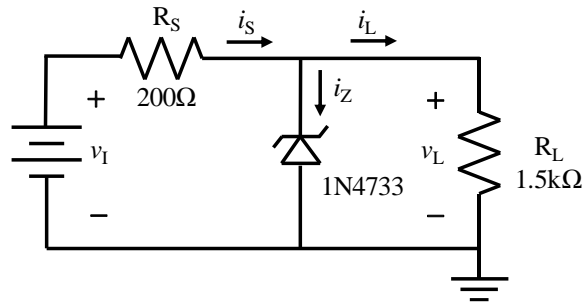

Fig. 4. Zener diode voltage regulator.
A Zener diode is sometimes used as a simple dc voltage reference or voltage regulator using a circuit like the one in Fig. 4. It is an inexpensive alternative to monolithic reference and regulator integrated circuits, but the performance is not as good. The Zener diode's incremental ac resistance makes this type of regulator's output voltage vary with load current and applied input voltage. A good voltage regulator acts like a voltage source so its output resistance must be very low, ideally 0. The Zener diode used here has an incremental resistance of a few ohms, which while low, is still too high to consider it as behaving like a voltage source.
4. Perform the following calculations for the Zener-diode voltage regulator in Fig. 4. Use the CVD model for the diode in reverse bias assuming it has a constant voltage drop of 5.1 V. Put your results in Table 2.